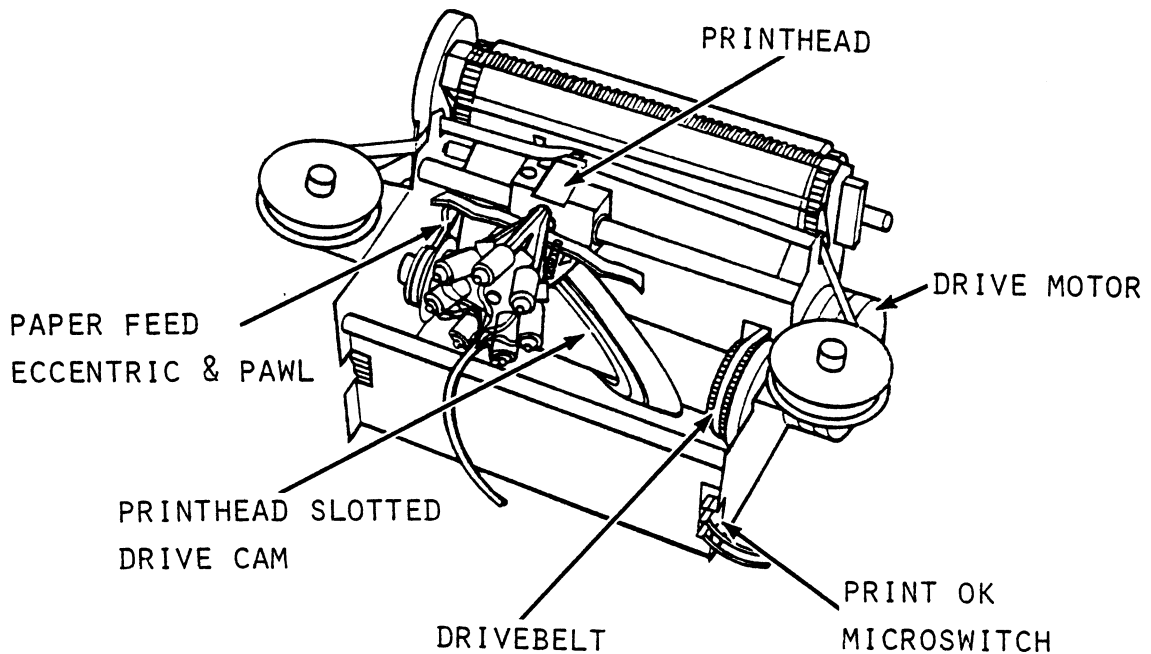

Figure 4-1. Print Mechanism-Front View
The 820 Printer Drive Mechanism is used to drive the print head across the print area and return the print head to its home positions. The operation consists of the following components: (Refer to Figure 4-1)
- o Paper Feed Eccentric - Connects to the drive cam to operate the Paper Feed Pawl. (Refer to Figure 4-1.)